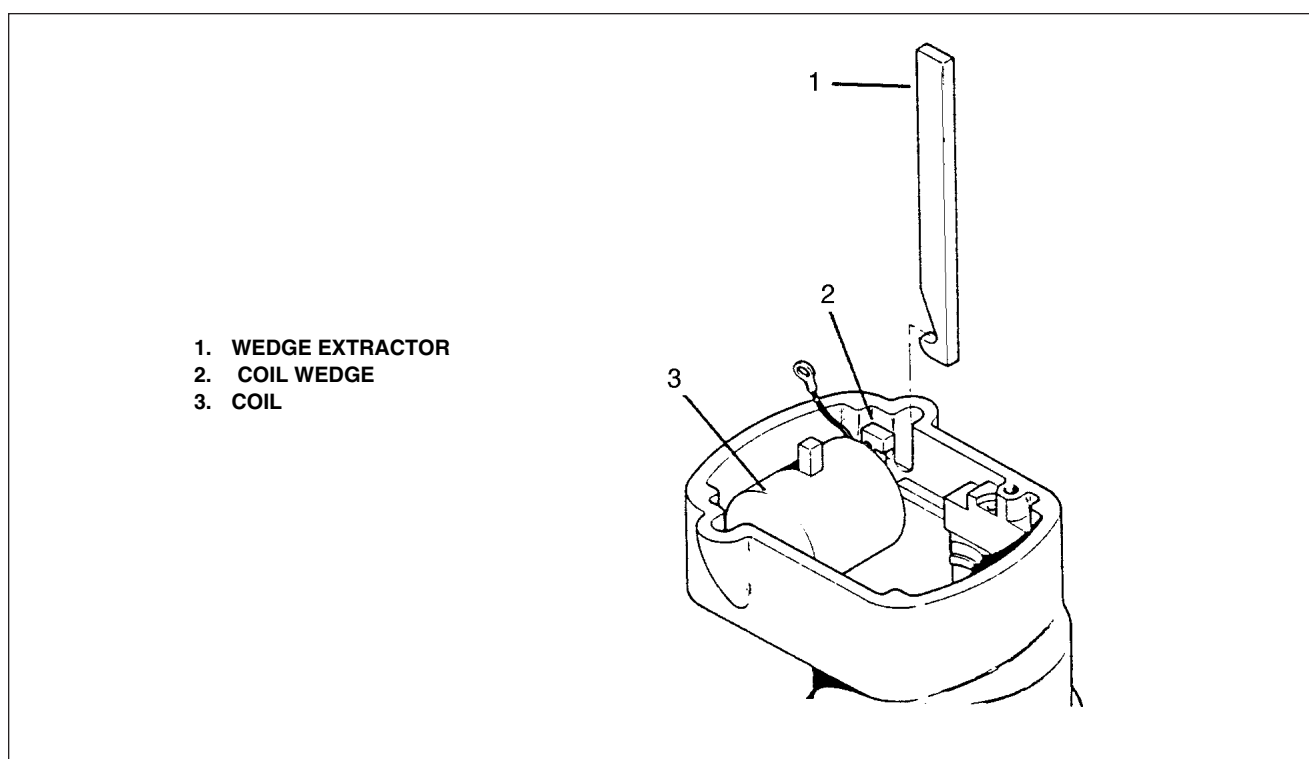

Figure 8-9. Removing Coil Wedges
- h. Using coil wedge extractor T-122, remove coil wedges and lift out and discard coil. (Refer to Figure 8-9.) Remove air vents. Remove and discard oil seal.